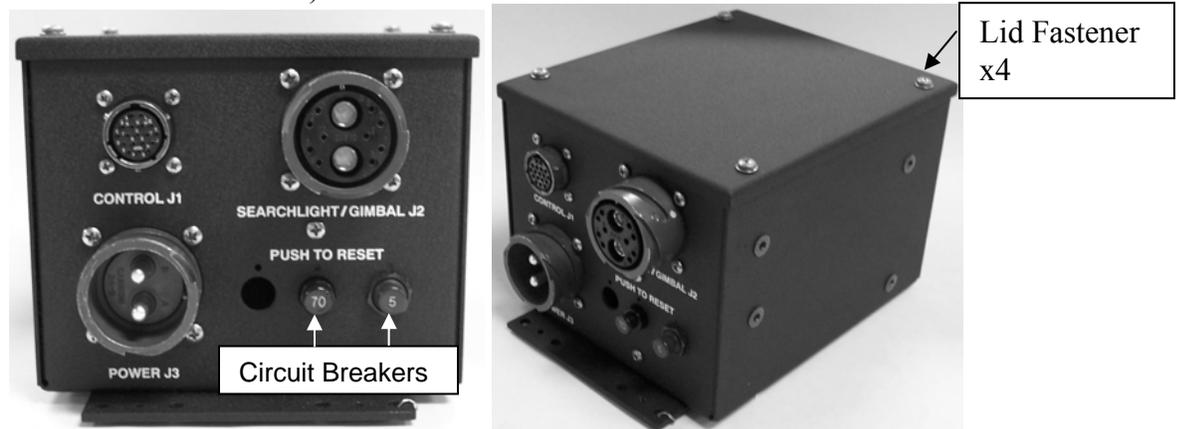

Figure 23 Quick Connect Junction Box
The quick connect Junction Box (Figure 23) can be added to or removed quickly from the system. It links all of the SX-16 Nightsun® components. Its three connectors include (1) a power connector, (2) a Control Box connector, and (3) a Searchlight/Gimbal connector. Section 3 of this manual describes the connections to the SX-16 Nightsun® components in detail.